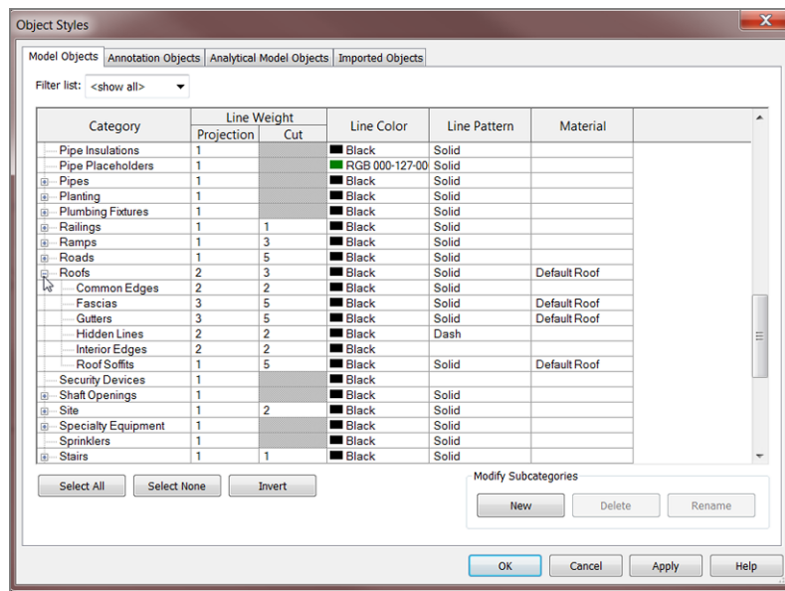

FIGURE 12.1: Changing the object line weights
3. In the Object Styles dialog box is a list of every object category available in Revit. The first items you want to change are the roofs. In the Category column, scroll down until you see Roofs, as shown in Figure 12.1.
4. In the Roofs row, change the Cut value to 3 (see Figure 12.1).
8. Change the Cut value for Roof Soffits to 5 (again, see Figure 12.1).